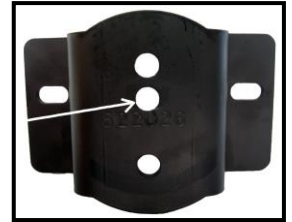

Fig. 1
- 5) Use the hole indicated by (Fig. 1). Secure tightly.